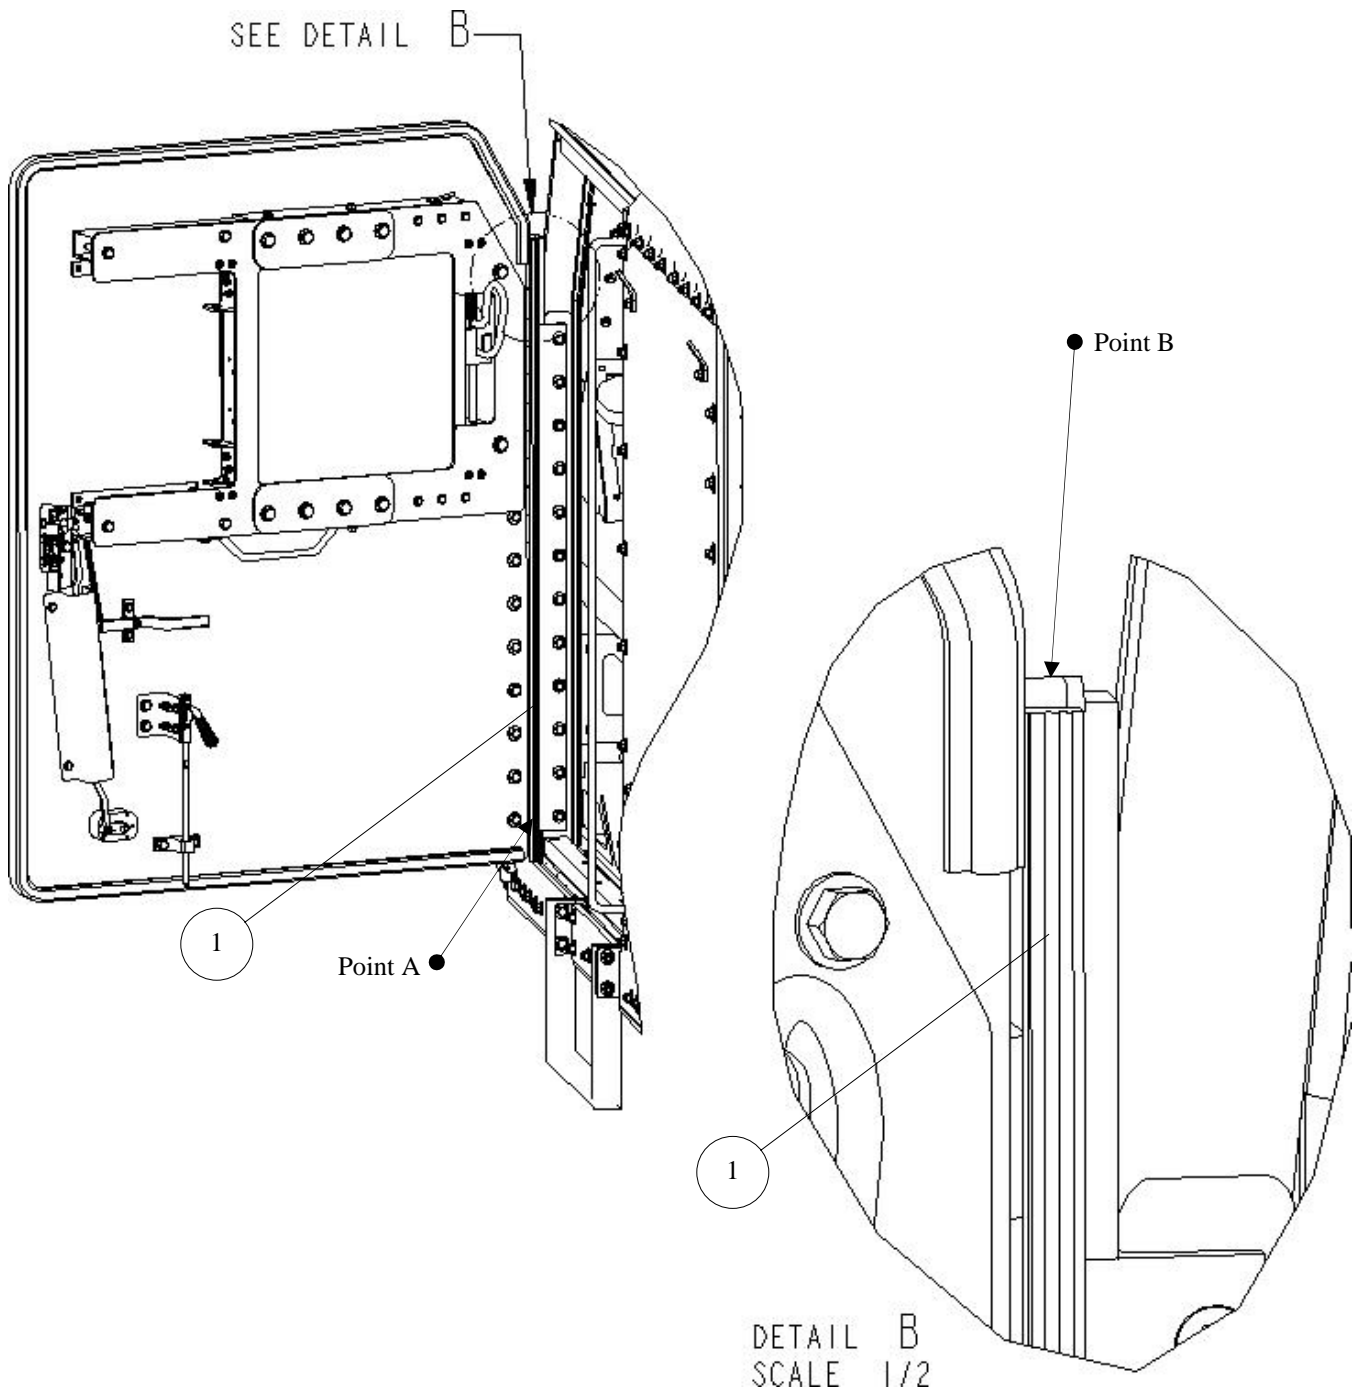

Figure 4-9. Installation of Trim Seals Inside of Left Door Hinge Area.
20. Apply trim seals to left door hinge and behind left forward armor panel assembly, as shown in Figure 4-9.